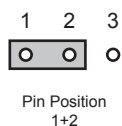

Figure 2.2 J7 — Default Position
- **Pin 1** (left) + **Pin 2** (center) position — In this position, the reference is terminated with a 75ohm resistor. This configuration is to be used for point-to-point cabling, or on the last card of a daisy chain topology. This is the default position. Refer to **Figure 2.2** for pin positions.